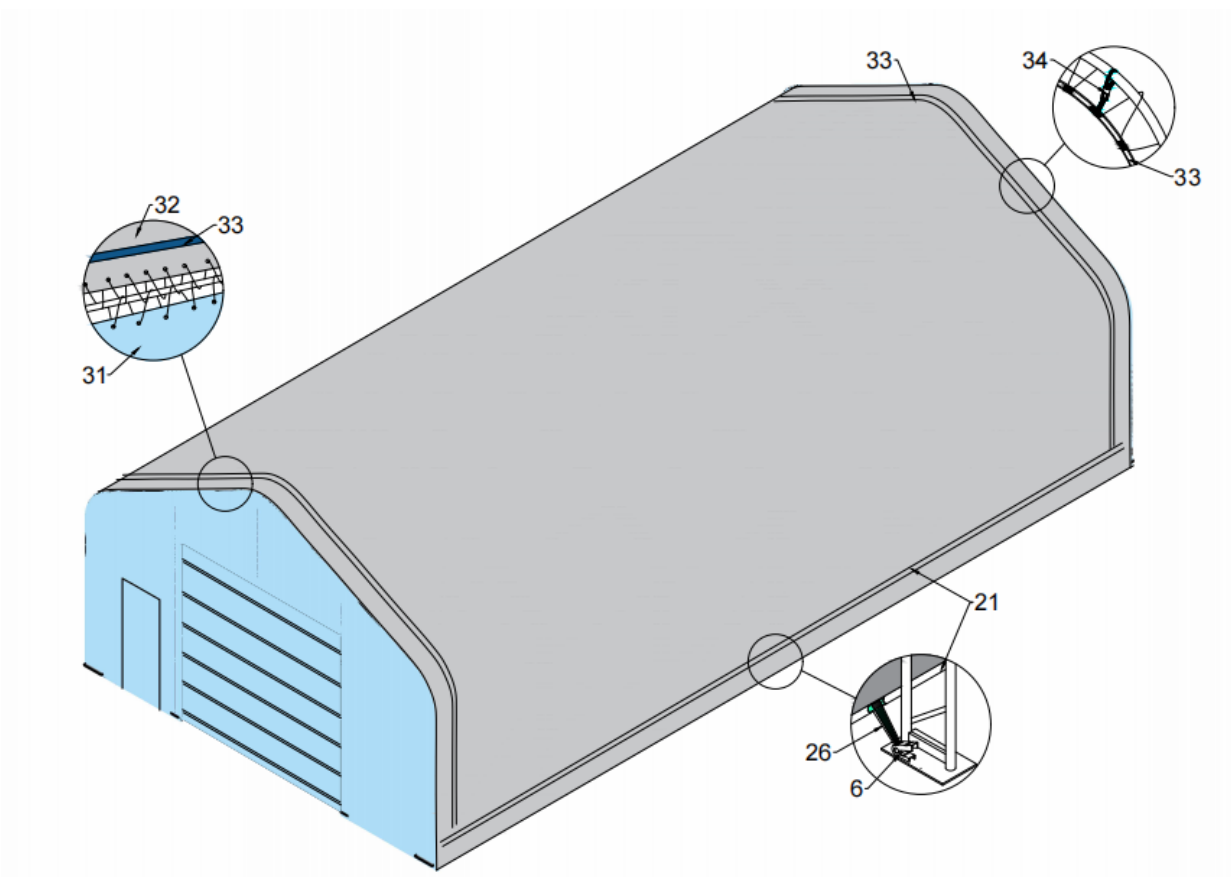

Figure 11
5. Cutting pockets over each ratchet on the base plates and using the Nylon Band (No.26) to tie down the Lower Tensioning Tubes (No. 21) as Figure 11 shown. Finally install the Plastic Plug (No. 28) into two end of the Lower Tensioning Tube.